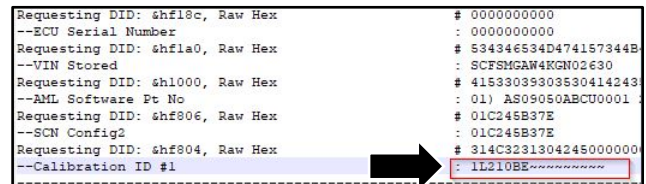

Figure 4
8. The calibration ID will show at the bottom of the read for the ECM_V8 (refer to Figure 4).